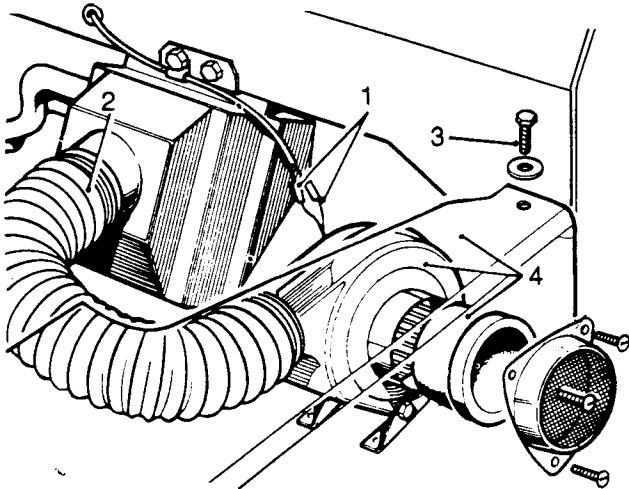

Fig N3.18
- (1) Disconnect the battery earth lead.
- (2) Disconnect the blower motor leads ((1) on Fig N3.18).
- (3) From inside the cab, remove the trim stuck to the bulkhead panel.
- (5) Refer to Fig N3.18. Lift the bonnet and disconnect the air hose at the matrix inlet (2).
- (6) Remove the wing panel rear top fixing bolt (3).
- (7) Manoeuvre the blower motor assembly clear, lifting the wing panel sufficiently to allow passage. (4)
- (8) Remove the air inlet seal (see Sub-section N3, Chapter 9).